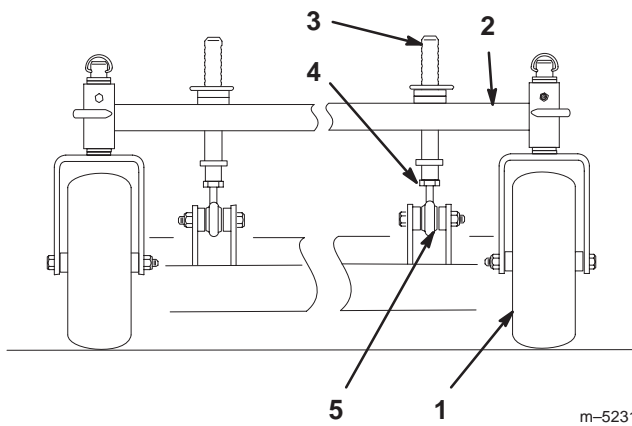

Figure 49
1. To change the front-to-rear pitch, the front height-of-cut posts can be adjusted (Fig. 49).
2. To raise the front of the deck, loosen jam nut and rotate the front pin clockwise (Fig. 49).
3. To lower the front of the deck, loosen jam nut and rotate the front pin counter clockwise (Fig. 49).